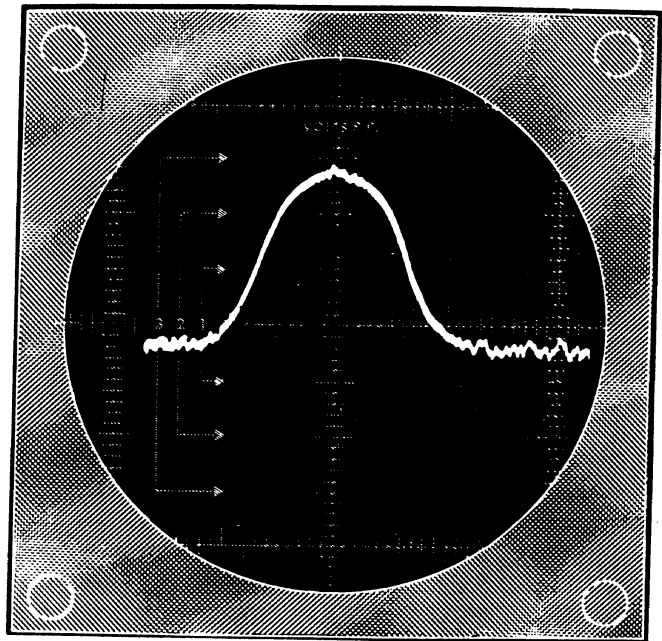

Figure 9
- () When you have tuned in the Generator signal, place the Generator FUNCTION switch in the RF SWEEP-IF MARKER position. Turn the FUNCTION LEVEL control fully clockwise. A response curve similar to Figure 9 should appear on the oscilloscope. Adjust the IF transformers for the best response curve as described in the tuner manual. Turn off the tuner and connect the vertical input of the oscilloscope to the output of the tuner detector stage.